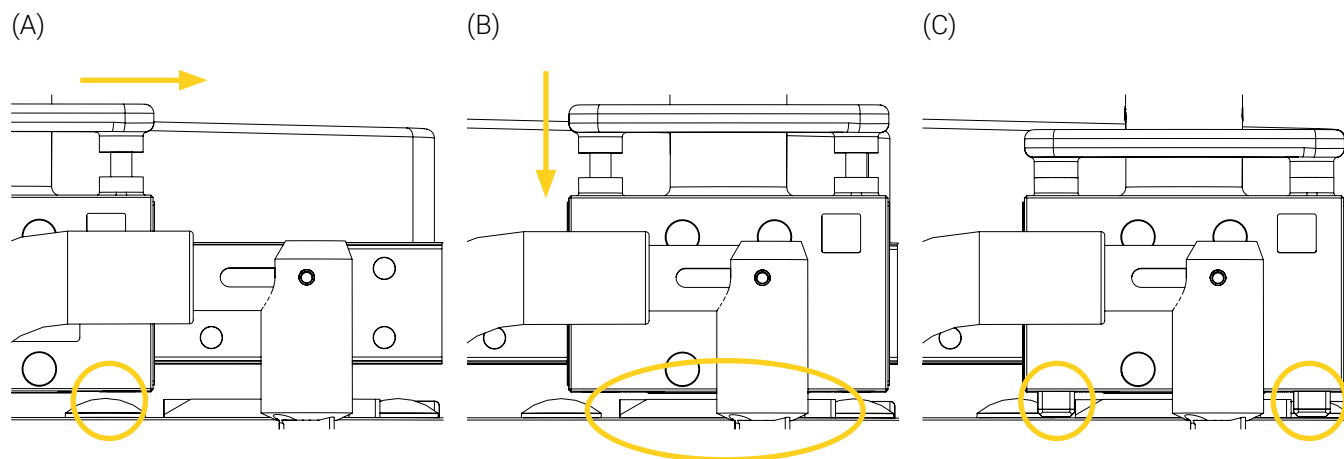

Figure 30: Activating the safety mechanism of the linear gliding system
- A linear gliding system moves the IV pole along the rail. A spring-loaded quick-release handle located on top of the sliding block is used to activate/deactivate the locking mechanism of the sliding block in/from the three (3) locking positions. Refer to sections 7.2.1 on page 37 and 7.2.2 on page 37 if needed.
- A locking joint mechanism is used to rotate the swivel elbow of the IV pole 180° on a vertical axis. A spring-loaded lock pin and quick-release button are used to activate/deactivate the locking mechanism in/from the seven (7) locking positions. Refer to sections 7.2.3 on page 38 and 7.2.4 on page 38 if needed.
- The medical devices are secured on the IV pole in two (2) collar-mounted Flex Sequ assemblies and on the fixed Flex Sequ assembly located in front of the rail. A quick-release button is used to activate/deactivate the safety mechanism. Refer to the Flex Sequ assembly User Manual if needed. Refer to sections 7.2.5 on page 39 and 7.2.6 on page 39 if needed.
The safety mechanism activates when the spring-loaded quick-release handle located on top of the sliding block is released. When the handle is released above one (1) of the three (3) stop plates, the two (2) locking pull pins are extruded from the sliding block on each side of the chosen plate, securing the rail-mounted IV pole (Figure 30).